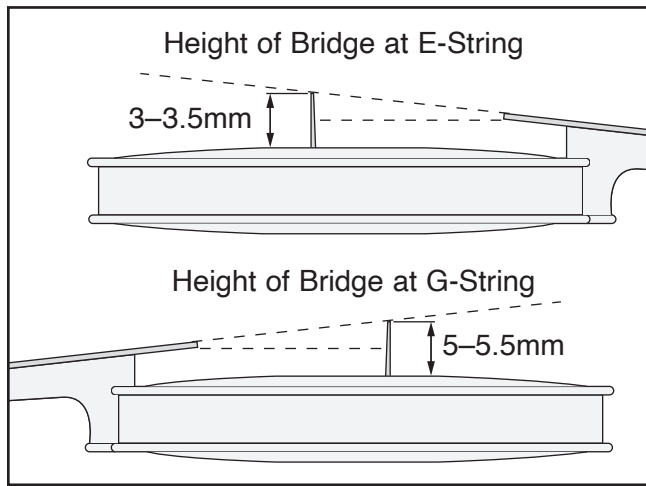

Figure 21. Proper bridge height.
2. Measure height of bridge compared to top surface of fingerboard. E-string must be positioned on bridge so it sits 3–3.5mm above fingerboard. Similarly, G-string must be positioned on bridge so it sits 5–5.5mm above fingerboard (see **Figure 21**).